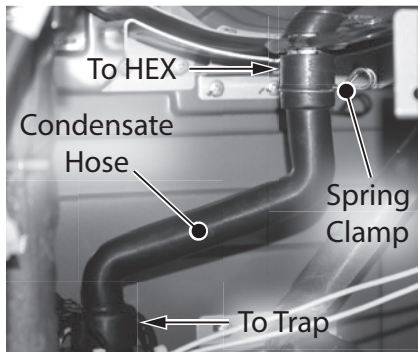

Figure 134 - Disconnect condensate hose
- 21** Disconnect the black hose from the top of the condensate trap and then from the back of the heat exchanger as shown in Figure 134. Compress the spring clamp and pull it down along with the black hose. Place hose aside in a safe place for reinstallation.